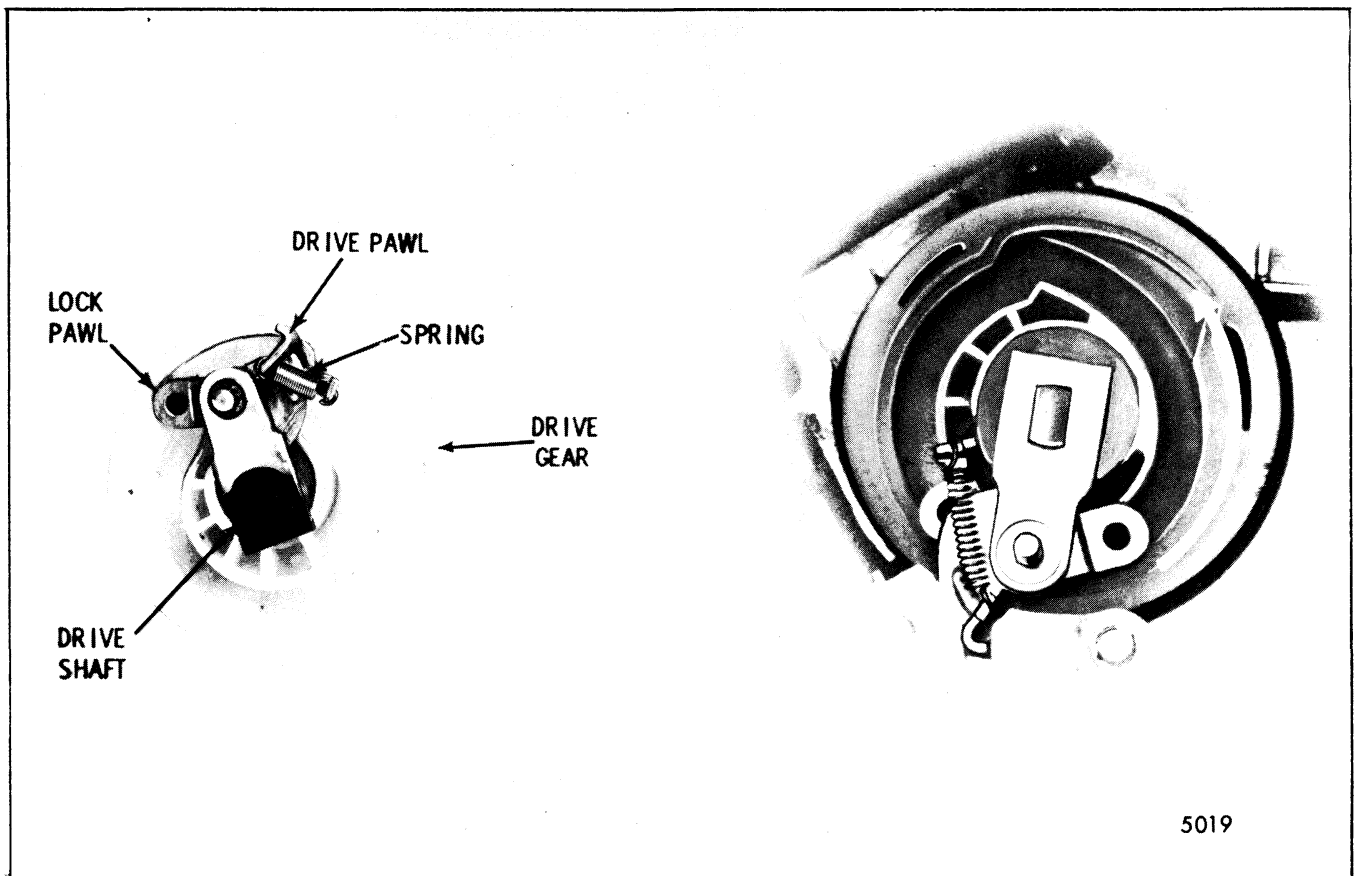

Fig. 2-48-Lock Pawl and Drive Pin Positioning
4. Holding the gear, manually rotate the drive plate in the direction of the arrow until the drive and lock pawl guide pins snap into their respective pockets in the gear (Fig. 2-48).